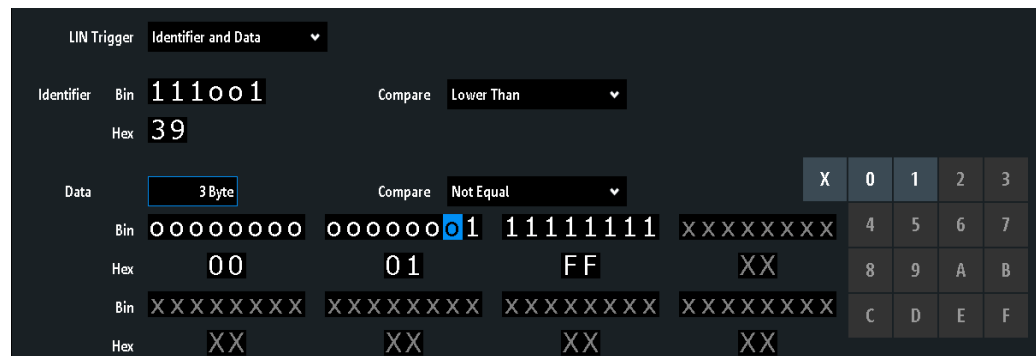

Figure 12-32: Trigger setup to trigger on identifier and data patterns
- "Identifier and Data" Triggers on a combination of identifier and data condition. The instrument triggers at the end of the last byte of the specified data pattern. An example is shown in Figure 12-32. See "Identifier condition" on page 242 and "Data condition" on page 243.